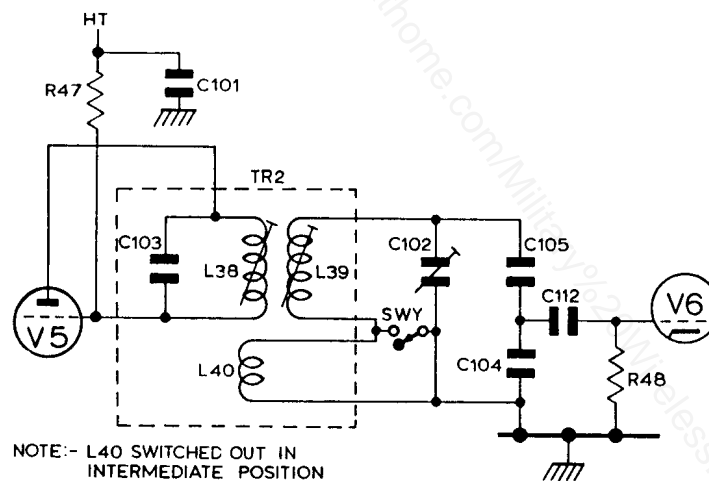

Fig.3.4 Receiver I.F. Selectivity. Wide and Intermediate
69. The TR2/TR3 coupling is as shown in Fig. 3.4 when switch SWY is at WIDE or INTERMEDIATE.